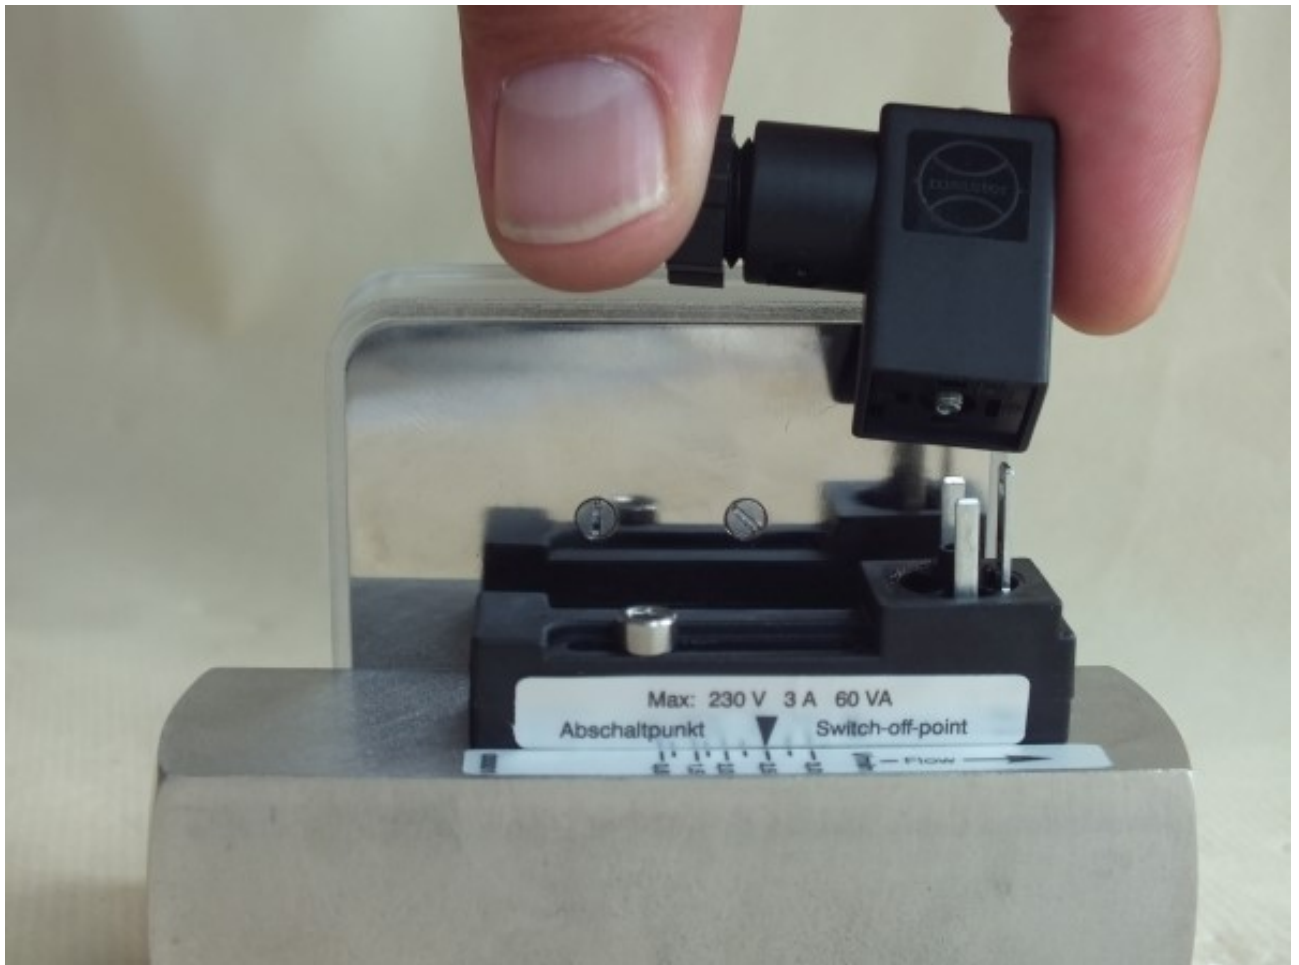

Fig. 23: Remove socket
2. ➡ Remove socket (*Fig. 23*)
- 9.** ➤ Place the female socket onto the connecting plug and tighten the fixing screw (*Fig. 23/1*).